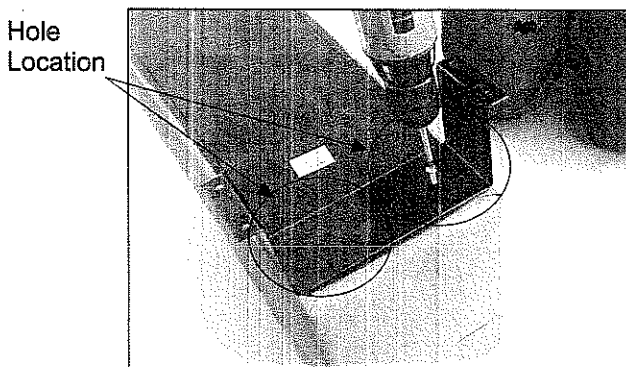

Figure 5
7. Attach the Mounting Bracket to the Console using the (2) 8 X 3/4" Sheet Metal Screws provided (Figure 5).